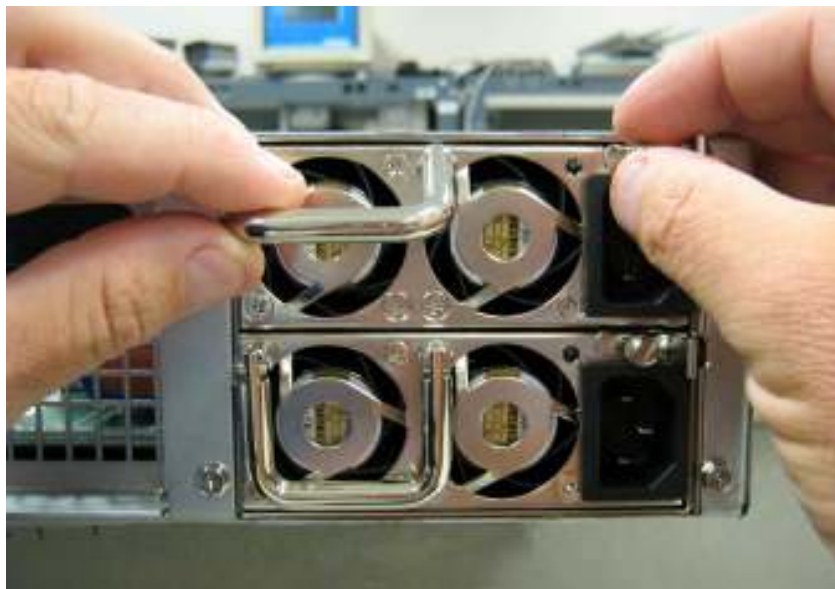

Figure D-20 Push the Locking Lever to the Left and Pull Handle
2. Push the locking lever to the left and pull on the handle as shown in Figure D-20.